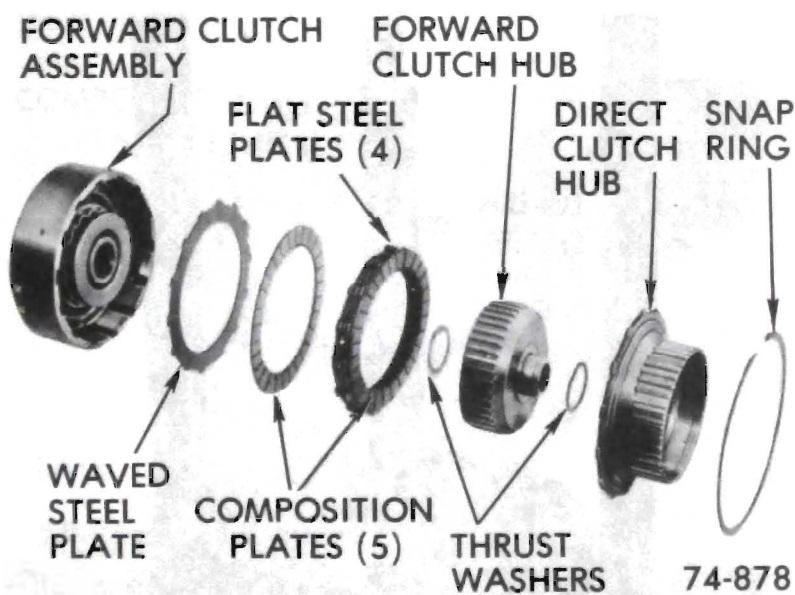

Figure 76-185
B. Wipe steel plates dry and check for heat discoloration. If the surface is smooth and an even color smear is indicated, the plates should be reused. If severe heat spot discoloration or surface scuffing is indicated, the plates must be replaced. See Figure 76-185.